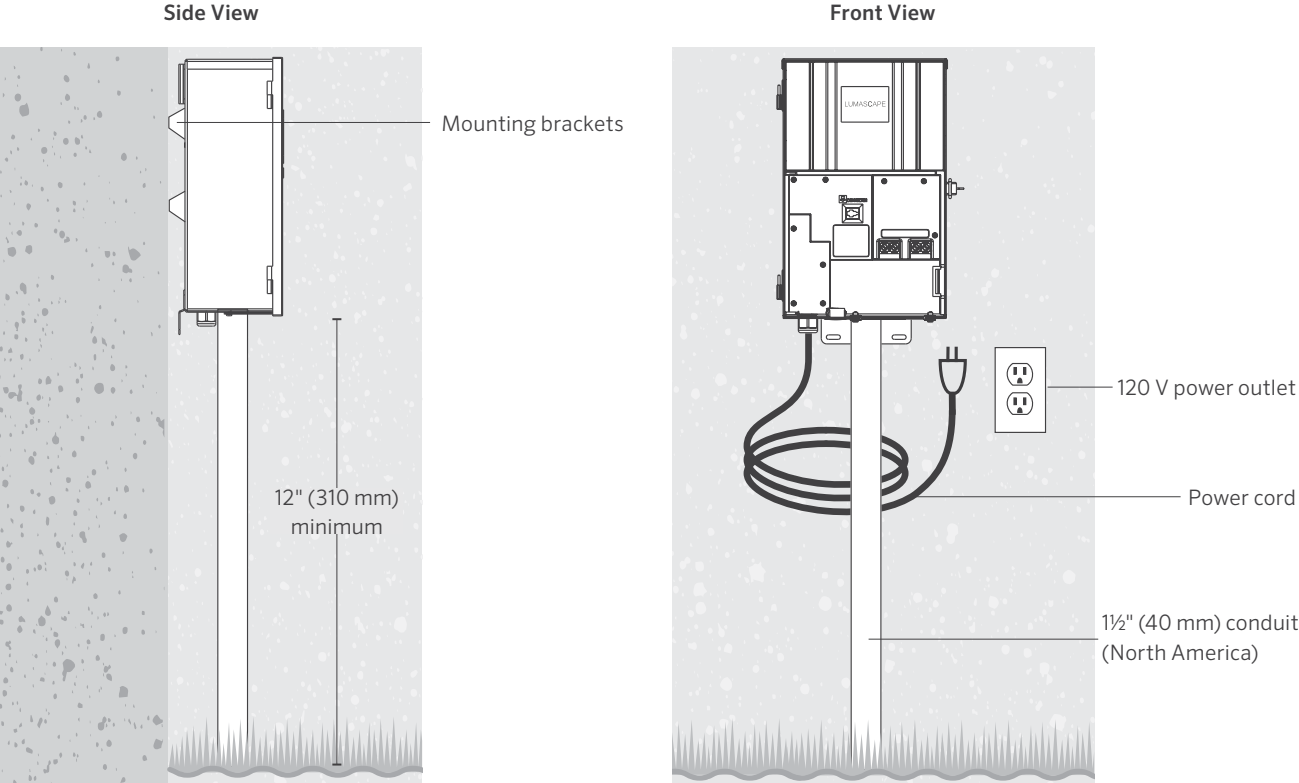

Figure 3: ZDCLink wall mounting
2. Repeat wall-mount installation instructions (Figure 3 on page 6), without the use of wall anchors.